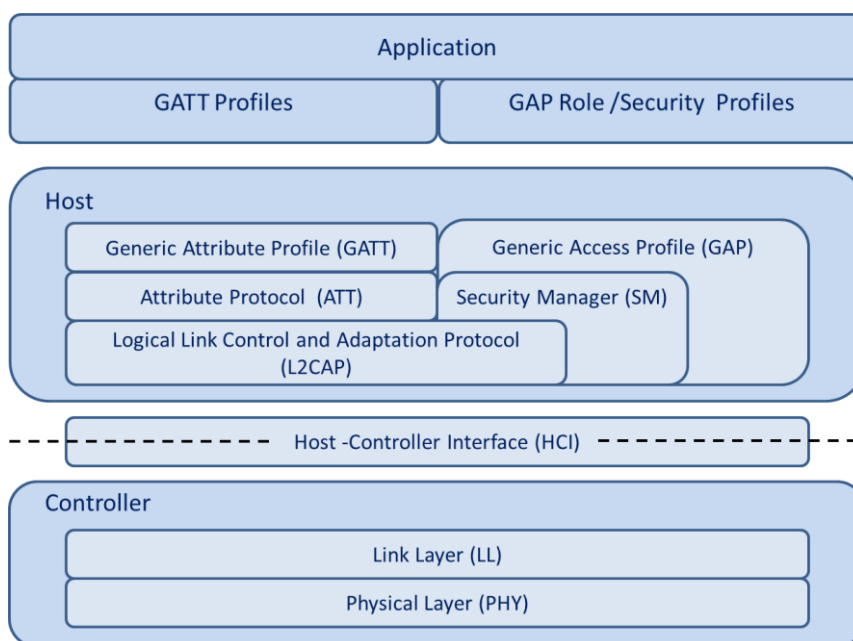

Figure 2: BLE Protocol Stack Layers
Similar to all Bluetooth devices from architectural point of view, a single-mode BLE device is divided into three blocks: controller, host, and application. Each of these basic building blocks consists of several layers which make the device operational, tightly integrated in the so-called Protocol Stack, presented in Figure 2:
The Host block consists of a set of layers, each with specific role and functionality, the cooperation of which makes the overall block operational. As shown in Figure 2 these layers are the Logical Link Control and Adaptation Protocol (L2CAP), the Attribute Protocol (ATT), the Security Manager (SM) and finally the Generic Attribute Profile (GATT) and Generic Access Profile (GAP).